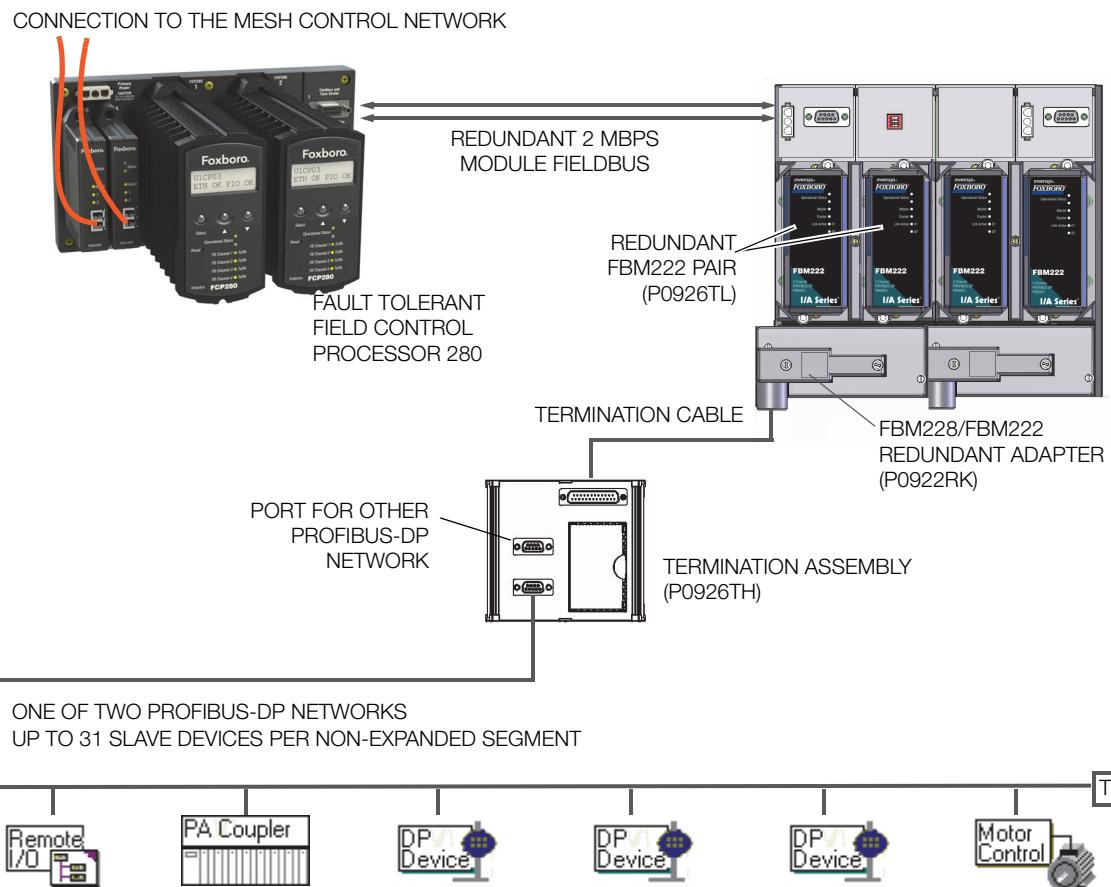
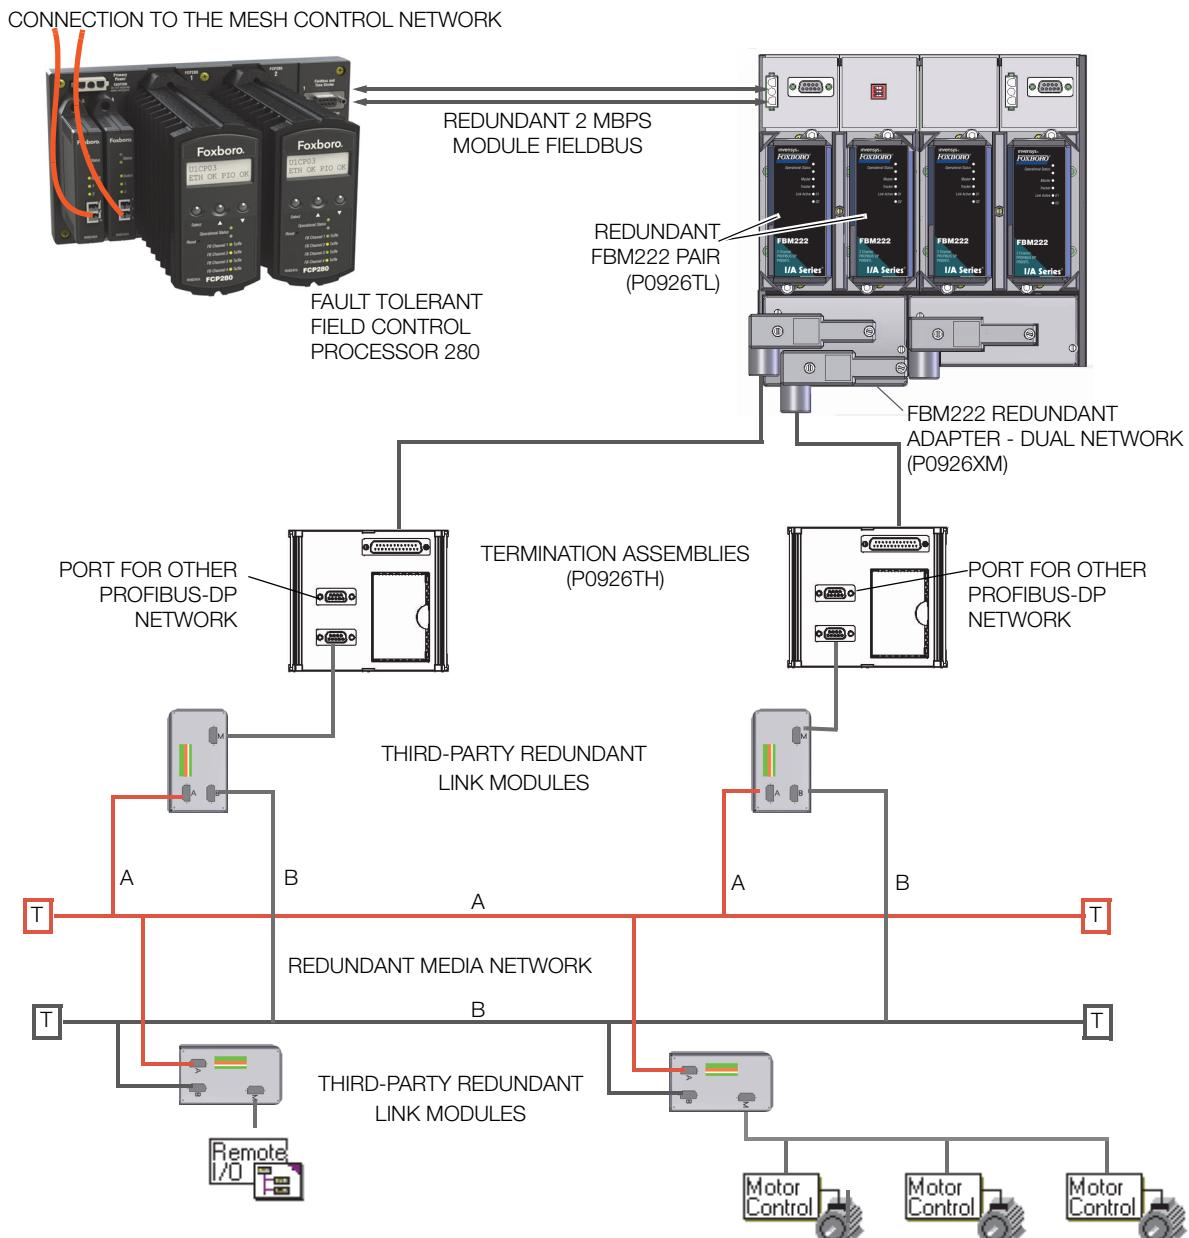

Figure 1. Redundant FBM222 with Single PROFIBUS-DP Network
Figure 2. Redundant FBM222s with Redundant Media PROFIBUS-DP Network
There are multiple ways to connect FBM222s installed as a redundant pair to a PROFIBUS-DP network. When the PROFIBUS segments are single networks as shown in Figure 1, an FBM228/FBM222 Redundant Adapter (P0922RK) connects a single termination cable to the redundant pair. The other end of the cable is plugged into a termination assembly (TA), which provides connections for the two network segments (Figure 1).
as the ABB™ Redundant Link Module (RLM01) (Figure 2). The Siemens™ Optical Link Module (OLM) can also be connected to these TAs in a configuration other than the one shown below.
When deployed for use with an FCP280 (as shown in Figure 1 and Figure 2), the module is installed in an adjacent baseplate. When deployed for use with an FCP270, the module is installed in the same baseplate or in an adjacent baseplate. For both FCPs, the FBM222 communicates with the control processor over a 2 Mbps HDLC module Fieldbus. The FCP, in turn, is connected over a 100 Mbps switched network to other control stations, supervisory applications, system management stations, and other Foxboro control resources.
With the optionally redundant FBM222, a highly available system can be configured, as shown in Figure 2 and including:
In addition to the four-position baseplate shown in Figure 1 and Figure 2, the module can be mounted on any of standard FBM baseplates described in *DIN Rail Mounted Subsystem Overview* (PSS 21H-2W1 B3). The baseplate is either DIN rail mounted or rack mounted, and includes signal